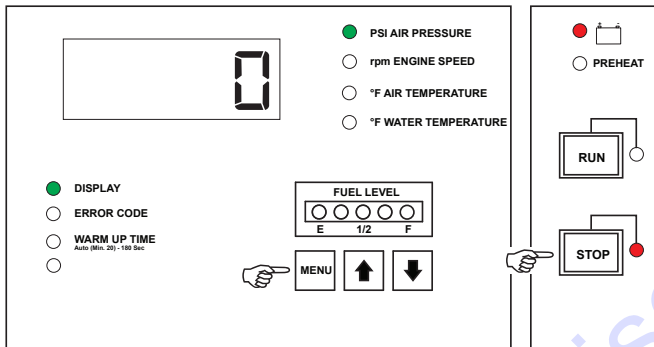

Figure 32. Pressure Adjustment
2. Press and hold the **MENU** and **STOP** buttons simultaneously (Figure 32).